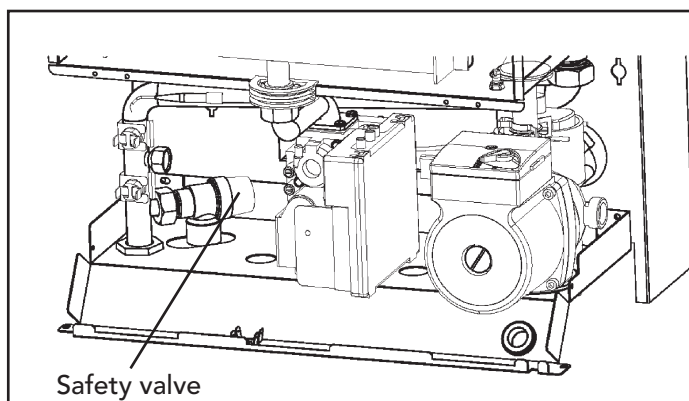

Fig. 21
Safety Valve (fig. 21)
- Identify valve from fig. 21